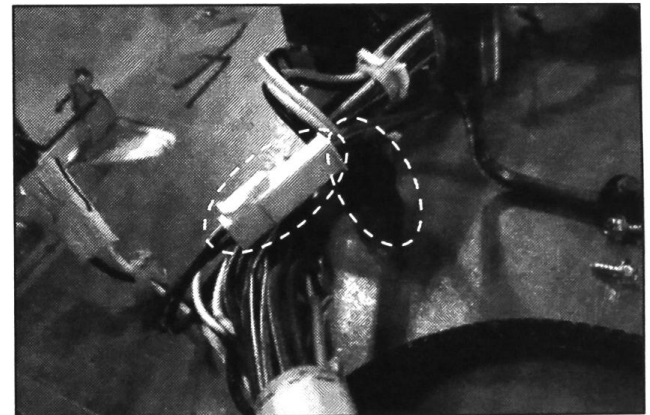

FIGURE 5
7. Disconnect the harness from near the inverter. Make sure to disconnect both connectors circled in *Figure 5*.